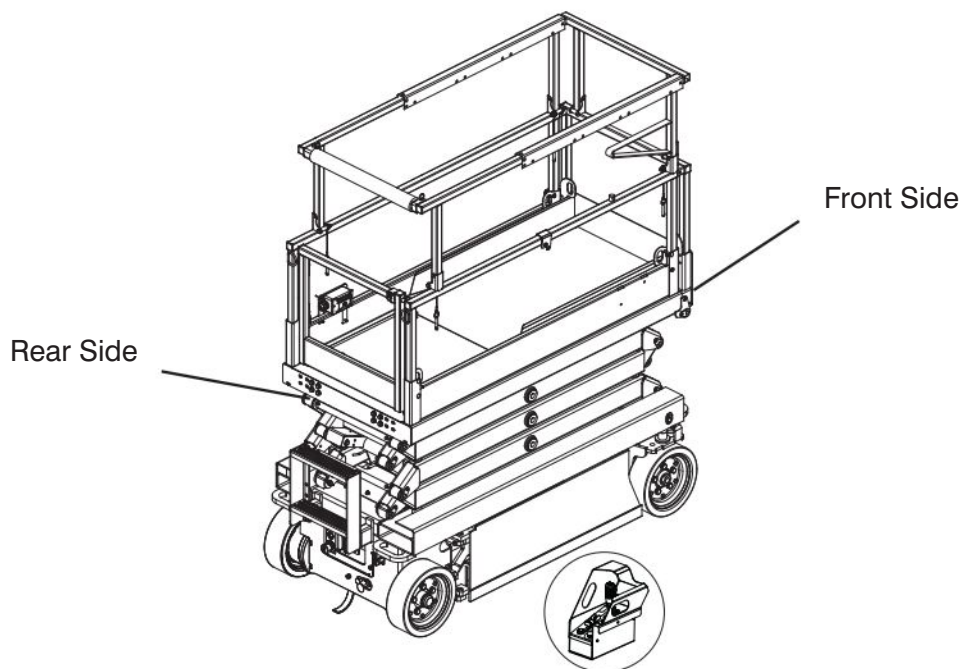

Figure 3-8. Control Box with Long Cable Outside Platform
- **Ensure the operator and control box console are properly oriented in the direction the MEWP is facing (see Figure 3-8).**